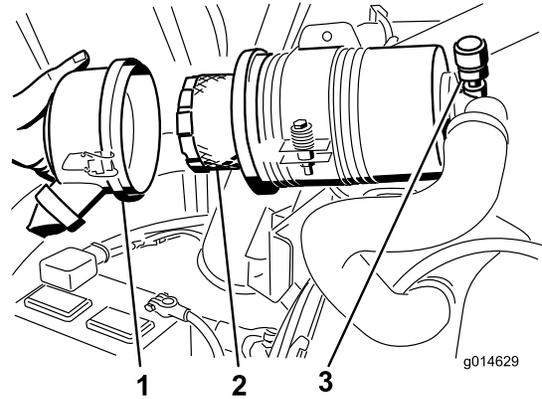

Figure 75
3. Remove and replace the filter (Figure 75).